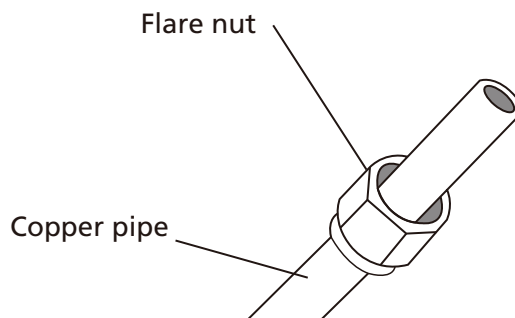

Fig. 5.3
3. Place flare nuts on both ends of the pipe. Make sure they are facing in the right direction because you can't put them on or change their direction after flaring. See Fig. 5.3.